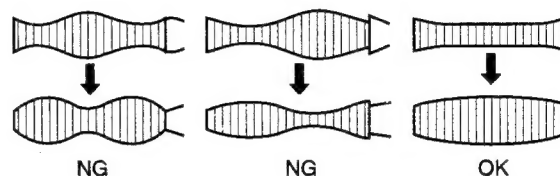

Fig. 2-7-9 Abnormal waveform variation
7. If the envelope varies like NG figures as shown in Fig. 2-7-9, perform the adjustment again since it is abnormal.